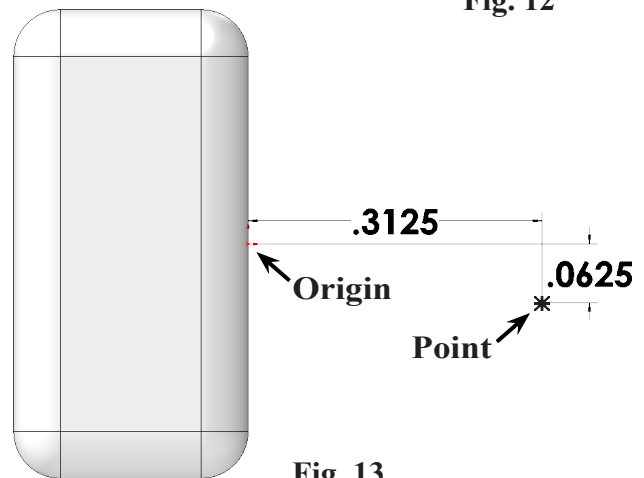

Fig. 13
Step 4. Sketch a Point out below the Origin , **Fig. 13**.
and **.3125**, **Fig. 13**.